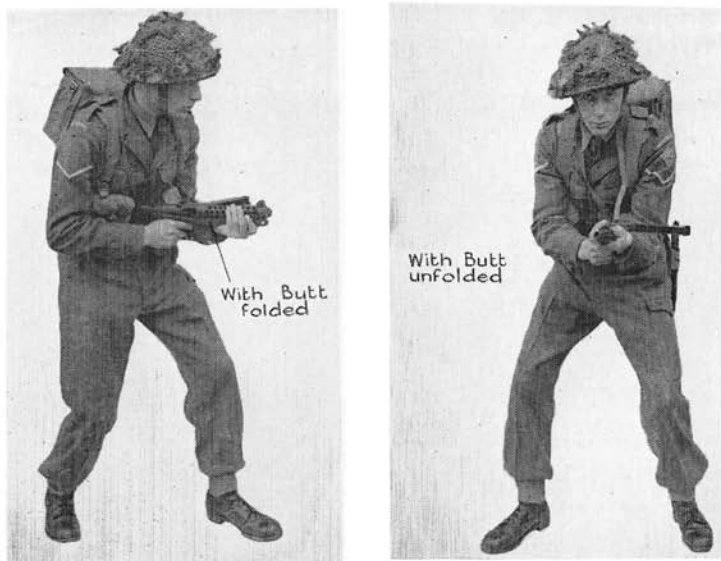

Fig 17.—Firing from the waist
15. Firing from the waist (See Fig 17).— Explain and demonstrate:—